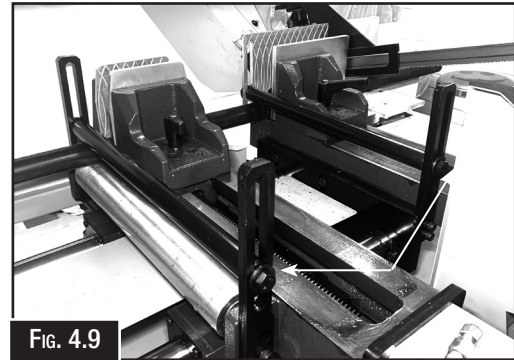

Fig. 4.9
5. **Upper Rollers:** The machine is fitted with two upper rollers, that need to move up & down to retain the cutting material when bundles are to be cut. The rollers need to be removed when cuts of more than 100 mm are required. To remove the rollers loosen and remove the two screws (one at each end of the roller) and remove the rollers. (Fig. 4.9)